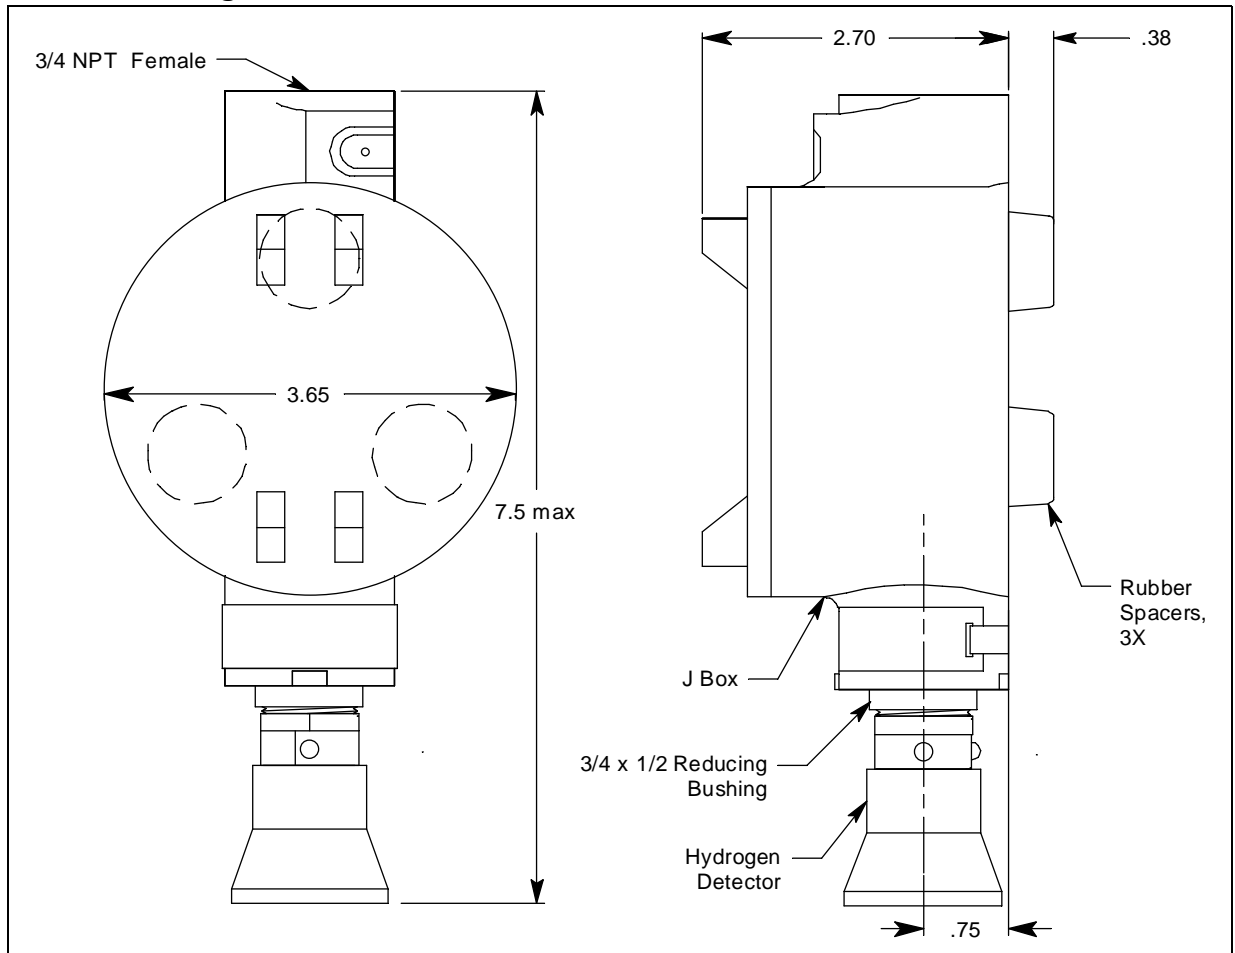

Figure 3: Mounting the PPM Hexane Transmitter
2. At the monitoring site you select, hang or mount the junction box with the detector facing down (see Figure 3).